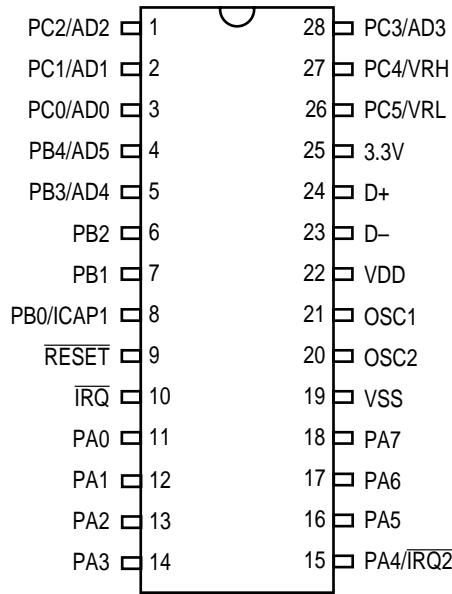
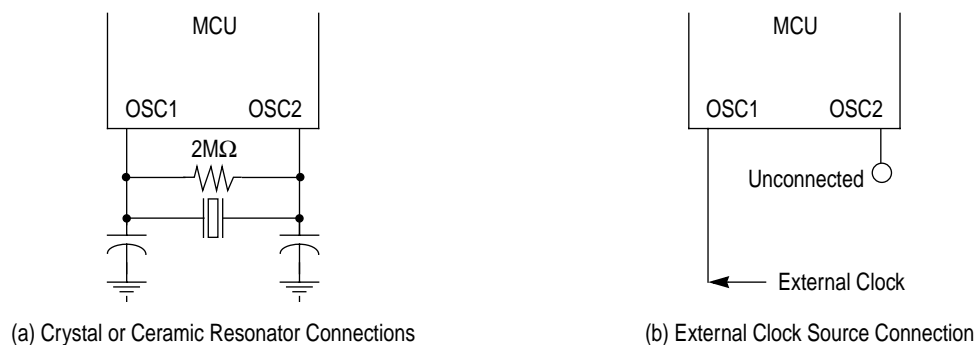

Figure 1-2. MC68HC05JB4 Pin Assignment
Figure 1-3. Oscillator Connections
The following paragraphs give a description of the general function of each pin assigned in Fig. 1-2 and Fig. 1-3.
1. A crystal as shown in **Figure 1-3(a)**
2. A ceramic resonator as shown in **Figure 1-3(a)**
3. An external clock signal as shown in **Figure 1-3(b)**
The circuit in **Figure 1-3(a)** shows a typical oscillator circuit for an AT-cut, parallel resonant crystal. The crystal manufacturer's recommendations should be followed, as the crystal parameters determine the external component values required to provide maximum stability and reliable start-up. The load capacitance values used in the oscillator circuit design should include all stray capacitances. The crystal and components should be mounted as close as possible to the pins for start-up stabilization and to minimize output distortion. An internal start-up resistor of approximately $2 M\Omega$ is provided between OSC1 and OSC2 for the crystal type oscillator as a mask option.
In cost-sensitive applications, a ceramic resonator can be used in place of the crystal. The circuit in **Figure 1-3(a)** can be used for a ceramic resonator. The resonator manufacturer's recommendations should be followed, as the resonator parameters determine the external component values required for maximum stability and reliable starting. The load capacitance values used in the oscillator circuit design should include all stray capacitances. The ceramic resonator and components should be mounted as close as possible to the pins for start-up stabilization and to minimize output distortion. An internal start-up resistor of approximately $2 M\Omega$ is provided between OSC1 and OSC2 for the ceramic resonator type oscillator as a mask option.
An external clock from another CMOS-compatible device can be connected to the OSC1 input, with the OSC2 input not connected, as shown in **Figure 1-3(b)**. This configuration is possible **ONLY** when the crystal/ceramic resonator mask option is selected.